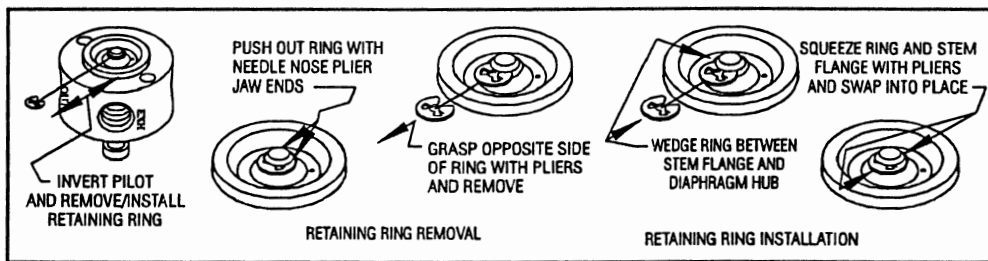

Figure 33. Retaining Ring removal/installation
- Remove Item 31 Cap then invert pilot Assembly and remove Item 21 Retaining Ring as shown in Figure 33. Use the ends of slightly opened needle nose plier jaws to push Ring far enough out from stem to grasp from Opposite End and remove.